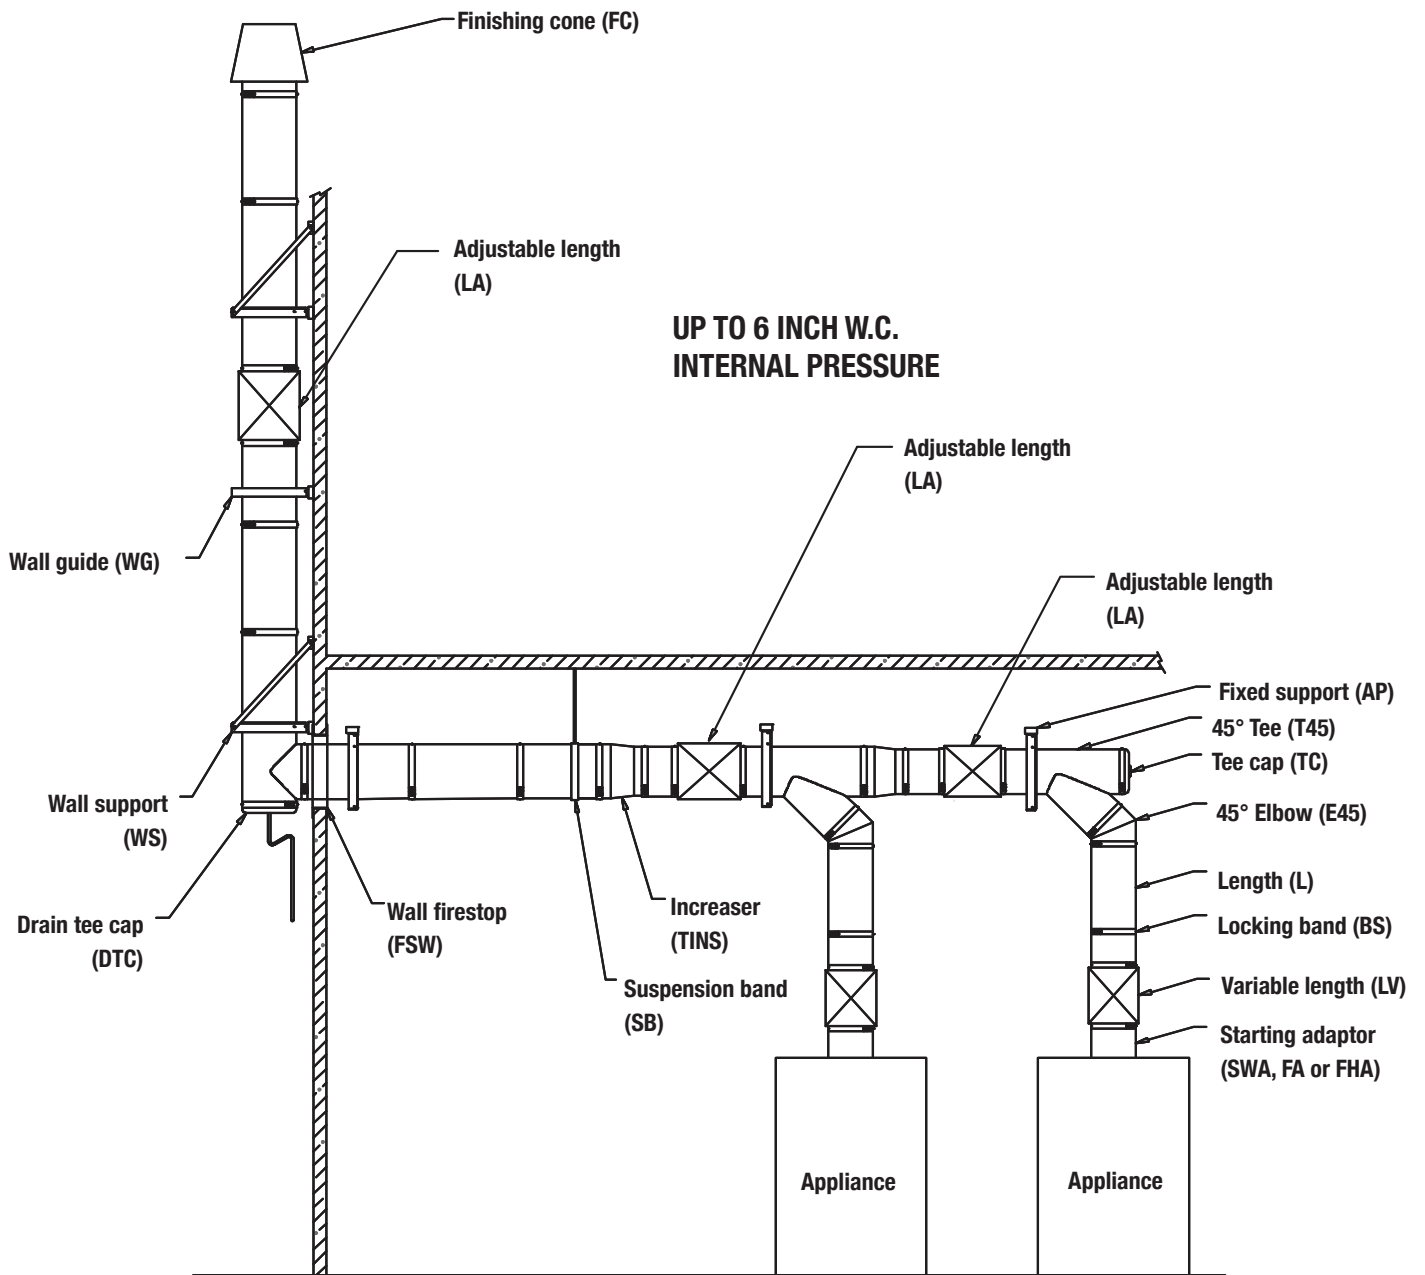

Figure 66 - Adjustable and Variable length typical location
1. The adjustable length (LA) is used for two functions, one is to make odd lengths and the other to serve as an expansion joint.
2. The adjustable length may be used when internal pressure do not exceed 6" water column or in well ventilated areas. See **Figure 66** for good positioning of the adjustable length.
1. The variable length (LV) is used only to make odd lengths, it doesn't compensate thermal expansion. See **figure 66 for typical location**.